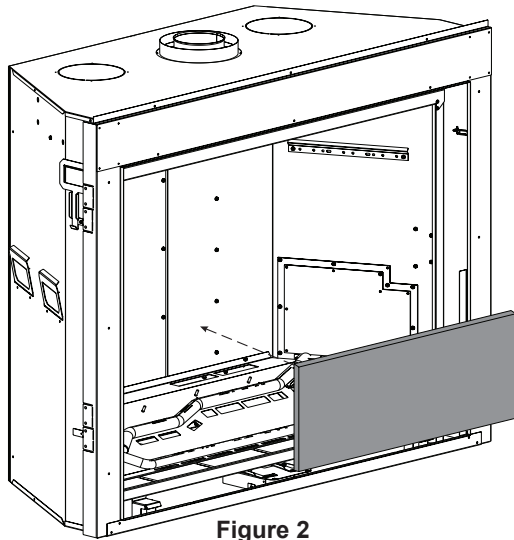

Figure 2
1. Place LINER REAR - BOTTOM on the back of the firebox and hold with one hand. (See Figure 2.)